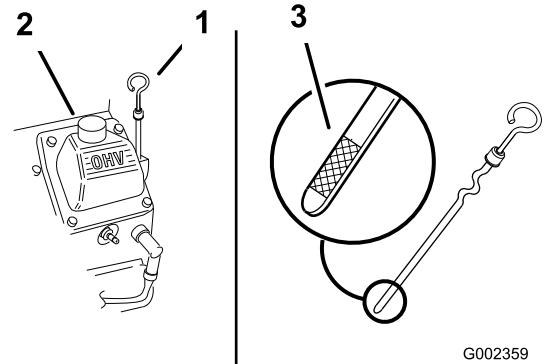

Figure 17
3. Clean around the oil dipstick (Figure 17) so that dirt cannot fall into the filler hole and damage the engine.
4. Unscrew the oil dipstick and wipe the end clean (Figure 17).
5. Slide the oil dipstick fully into the filler tube, but do not thread it onto the tube (Figure 17).
6. Slowly pour approximately 80% of the specified oil into the filler tube (Figure 17).